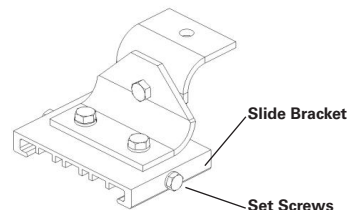

Figure 6. Swivel Mount Details
5. Tighten the two (2) 1/4" set screws on each slide bracket until they bottom (see Figure 6). Torque to 78 in.-lbs. (8.8 N-m).
6. Adjust the position of the fixture to the desired angle and tighten the two (2) 5/16" pivot bolts. Torque to 138 in.-lbs. (15.6 N-m).